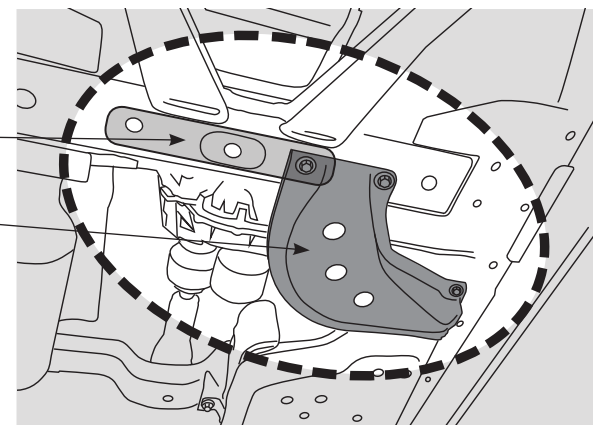

Fig 1
2. Remove bolt from transfer case protection plate located nearest to centre of vehicle and loosen outer most bolt. (Retain bolt for later use). Refer Fig 1.